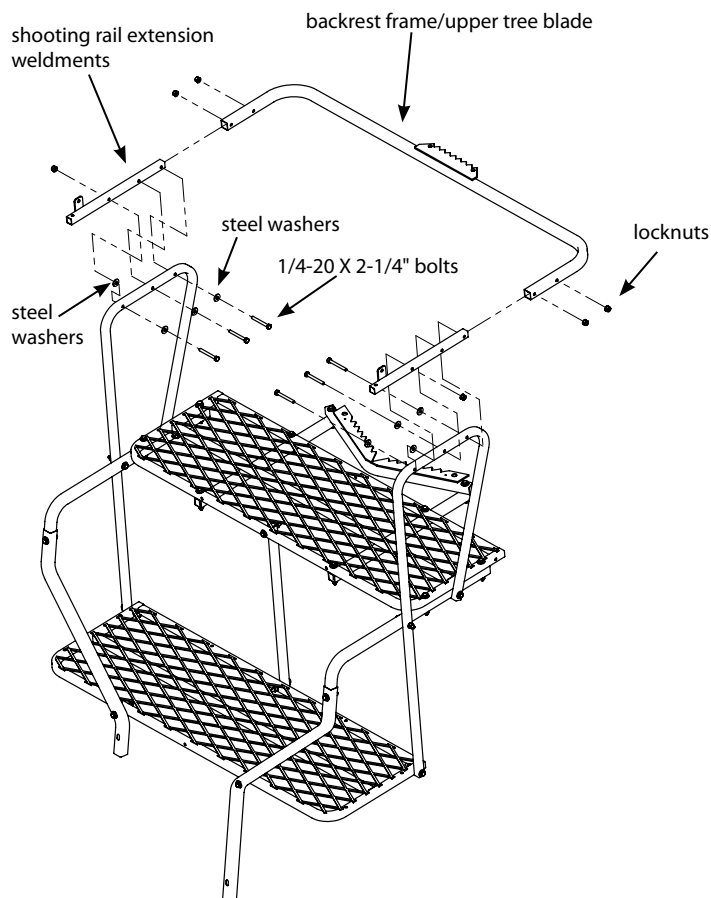

Figure 5
8. Insert the (2) shooting rail extension weldments (411028) into the receiving ends of the backrest frame/upper tree blade (411025). Secure all three pieces to the side loop frames using (6) provided 1/4-20 x 2-1/4" bolts, (6) locknuts and (8) steel washers. **SEE FIGURE 5.**